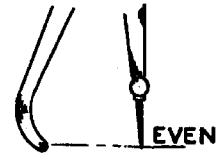

FIG.11 ADJUSTING LENGTH OF SCRIBER LEG
- Adjust the length of the scriber leg so that it is even with the inside edge of the rounded caliper leg when it is to be used to scribe lines from the outside edge of the work. (Fig. 11).